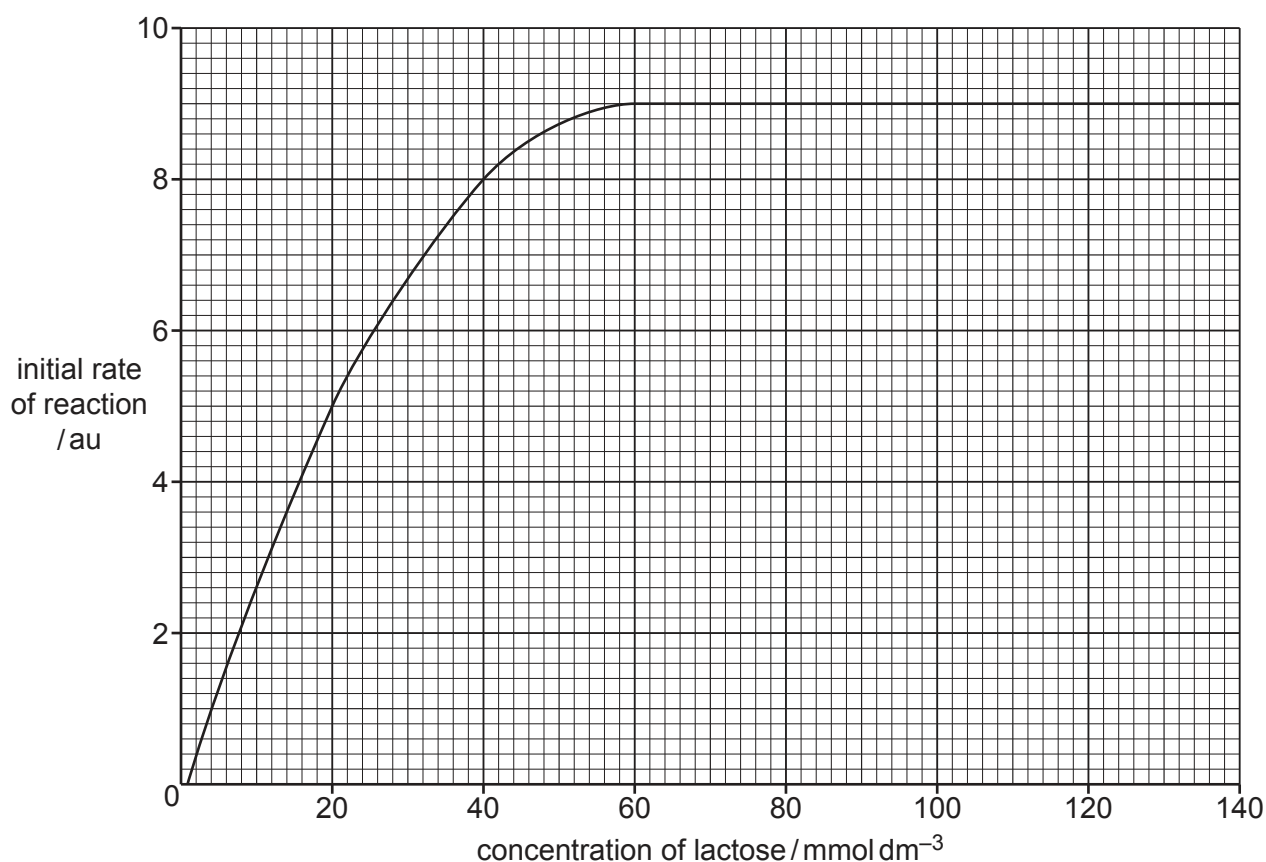

Fig. 1.2
A student measured the initial rate of reaction of human lactase at different concentrations of lactose and plotted a graph, as shown in Fig. 1.2.
- (ii) Use the graph in Fig. 1.2 to estimate the Michaelis-Menten constant (K_m) of lactase.
Show your working **on the graph** in Fig. 1.2.